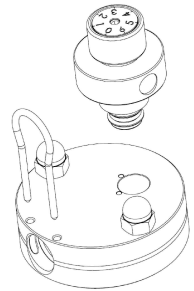

fig. 11
- Remove air regulation off the valve head and remove air regulation screw and locking device (fig. 11).